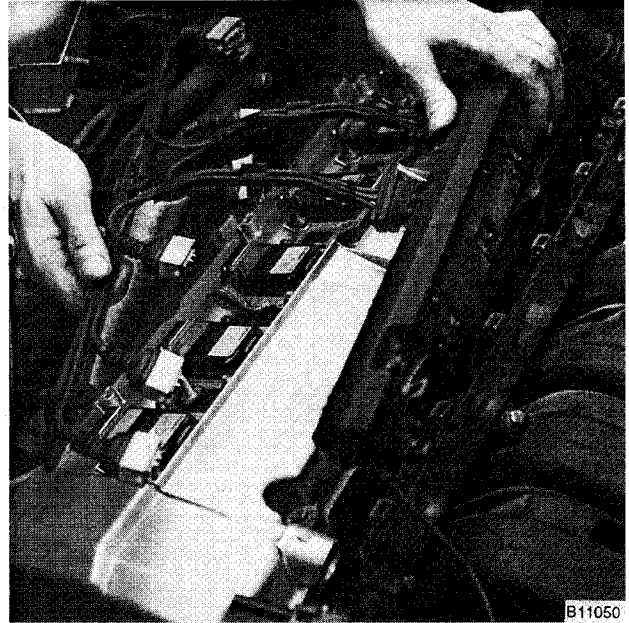

Fig. 15. Injector wiring harness duct being removed from M50 engine.
- M50/S50US engines: Remove two nuts from injector duct. Carefully pry injector wiring duct off injectors. See Fig. 15.